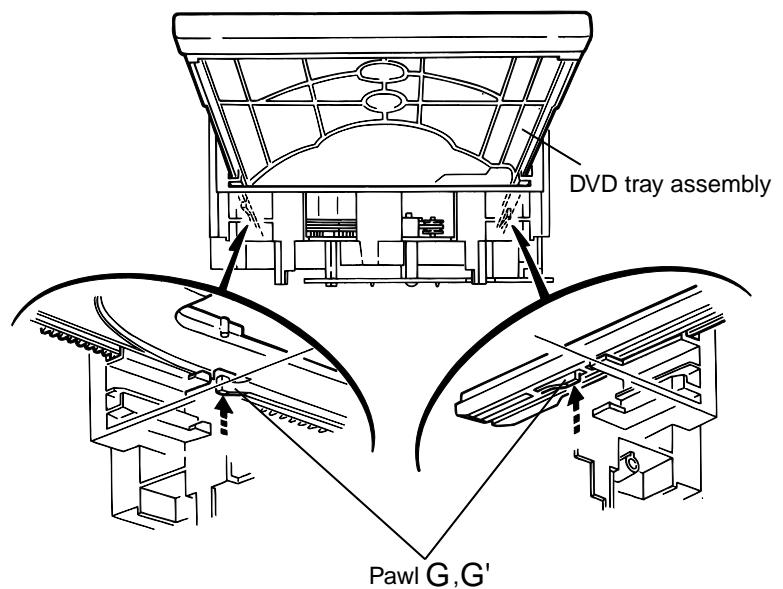

Fig.9
15. At the position where the DVD tray assembly has stop end, pull out the DVD tray assembly while pressing the two pawls "G and G'" on the back side of DVD tray assembly (See Fig.9). In this case, it is easy to pull out the assembly when it is pulled out first from the stage DVD tray assembly.